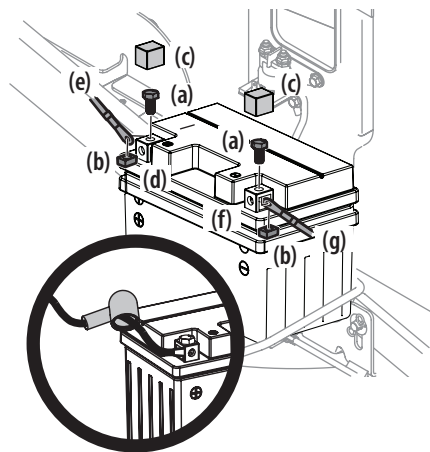

Figure 18
- Remove the hex screws (a) and square nuts (b) located either on the end of the wiring harness or in the bag with this manual. Retain the hardware for later instructions. See Figure 18.
- Remove the plastic cover (c), if present, from the positive battery terminal (d) and attach the red cable (e) to the positive battery terminal (d) with one of the hex screws (a) and square nuts (b), from Step 1. Use a Philips screw driver. See Figure 18.
- Remove the plastic cover (c), if present, from the negative battery terminal (f) and attach the black cable (g) to the negative battery terminal (f) with the remaining hex screw (a) and square nut (b). See Figure 18.
- Position the red rubber boot over the positive battery terminal to help protect it from corrosion. See inset in Figure 18.